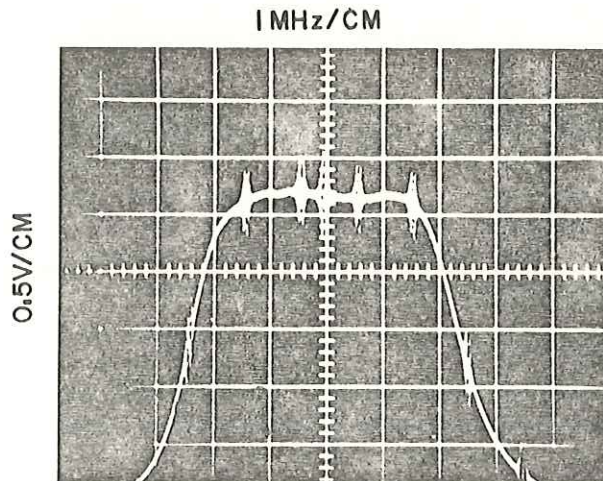

Figure 4-16. Typical Response, 21.4 MHz IF Amplifier (4 MHz BW)
- (13) Readjust capacitor A13A1C59 for maximum gain. Switch between the .5/1 MHz bandwidths or the 2/4 MHz bandwidths on both type demodulators to obtain an optimum response. A typical response for the 4 MHz bandwidth IF amplifier is shown in Figure 4-16.